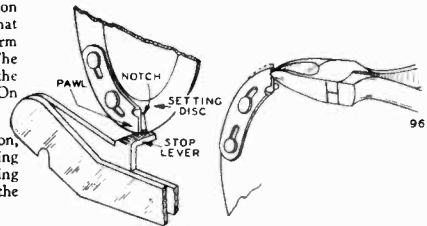

Fig. 12—Pinching Pawl of Setting Disc
(102) This condition is easily corrected as follows: Using a pair of side cutters, grip the tip of the pawl as shown in Fig. 12 about 1/32 inch from the edge. Pinch firmly and push outward (away from the center of setting disc). Do this until the tip of the pawl is a little more than 1/64 inch beyond the outer edge of the setting disc.